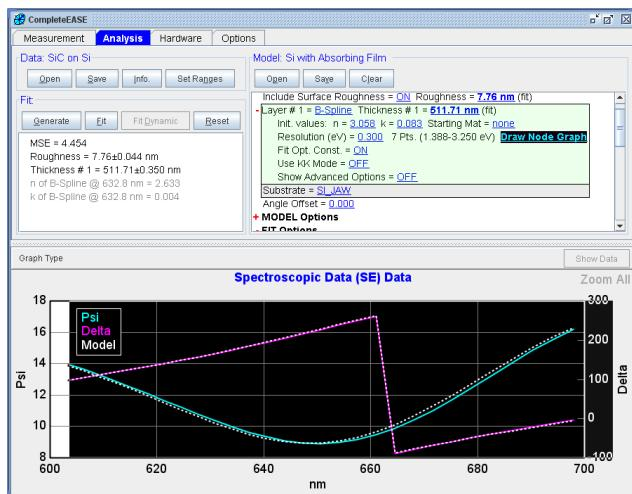

Figure 4-24. Expanding the current wavelength range to longer region.
2. Range select wavelengths of 600nm and above. For this, start the mouse-button just inside the current graph (near 600nm) and then drag beyond the right graph boundary to incorporate all longer wavelengths (Figure 4-24).